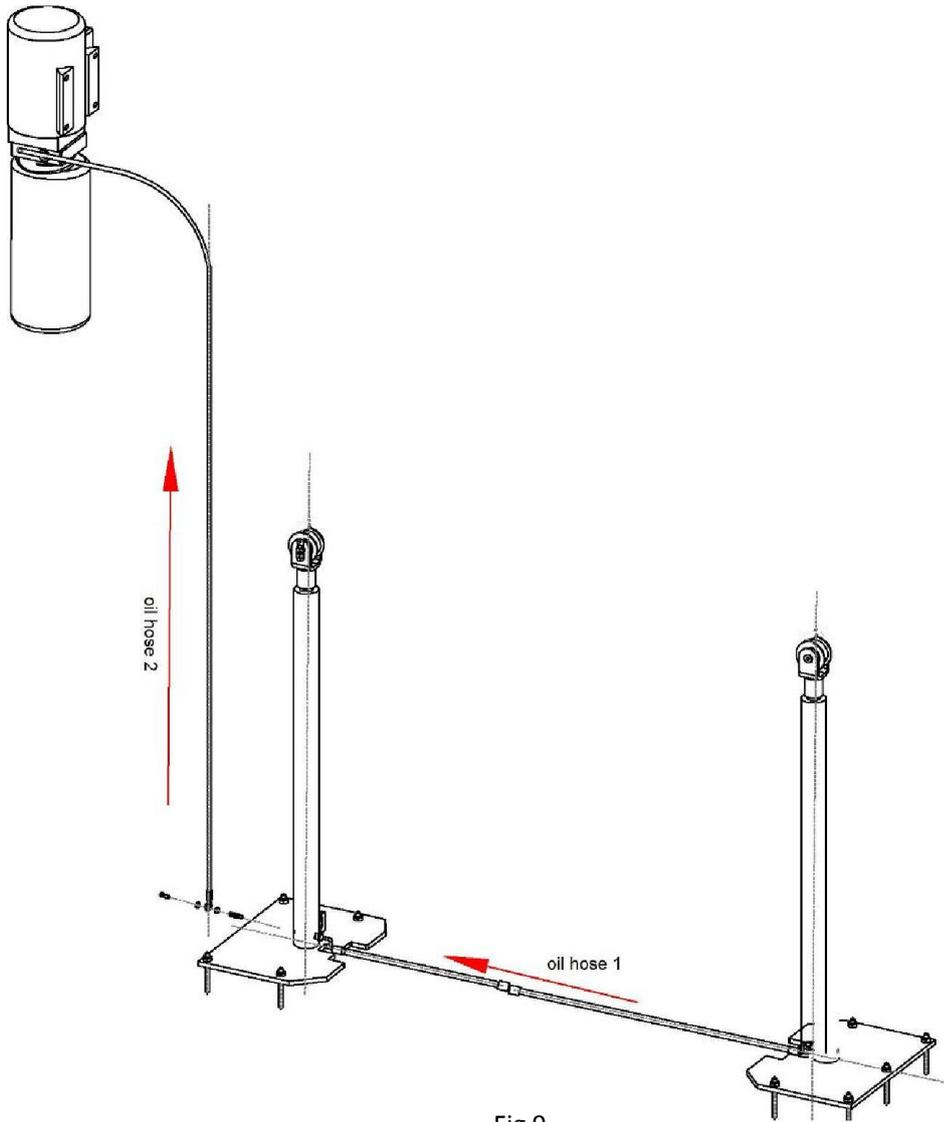

Fig 9
**Step8: Connect oil hoses. (Fig 9)**